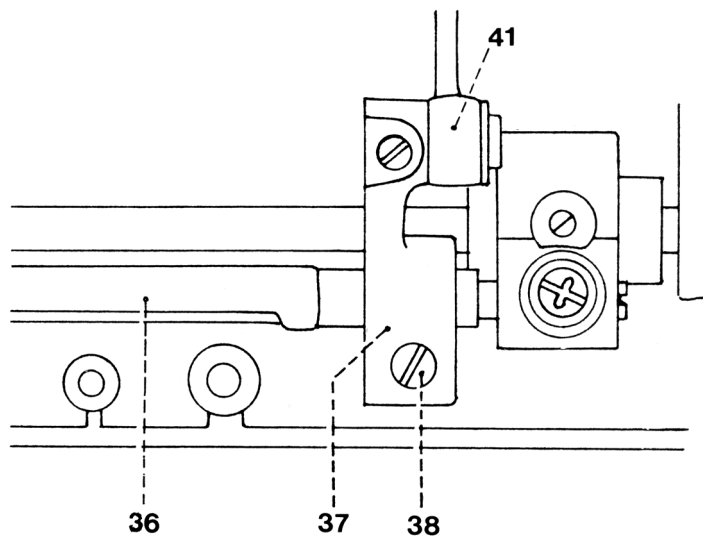

Fig. 11a
- Loosen screw 38 only a little (fig. 11a)